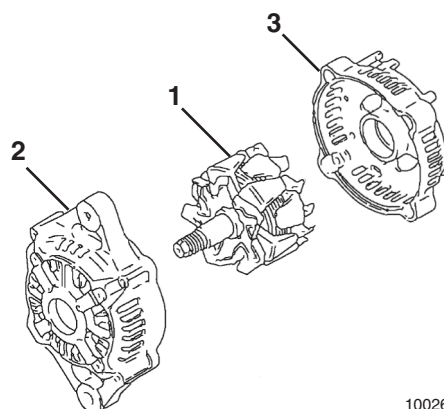

Figure 4-7-9
8. Using a press, remove the rotor assembly (**Figure 4-7-9, (1)**) from the front frame housing (**Figure 4-7-9, (2)**) and rear frame housing (**Figure 4-7-10, (1)**).